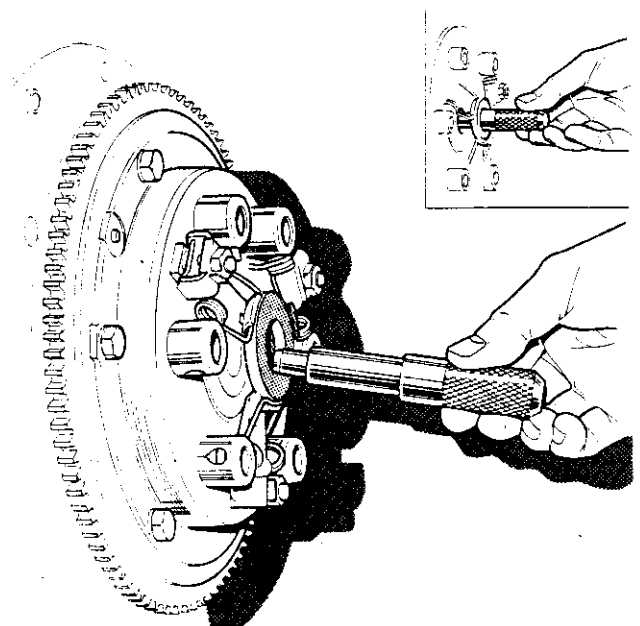

Figure 0 Clutch alignment tool
1. Using tool No. RT 7485 as a centraliser, or a primary shaft from a gearbox, position the clutch disc and pressure plate assembly on the flywheel, securing evenly with the six set screws and lock washers to a torque of 1.66 to 2.07 kg/m (12 to 15 lb/ft) (**Figure 0**)